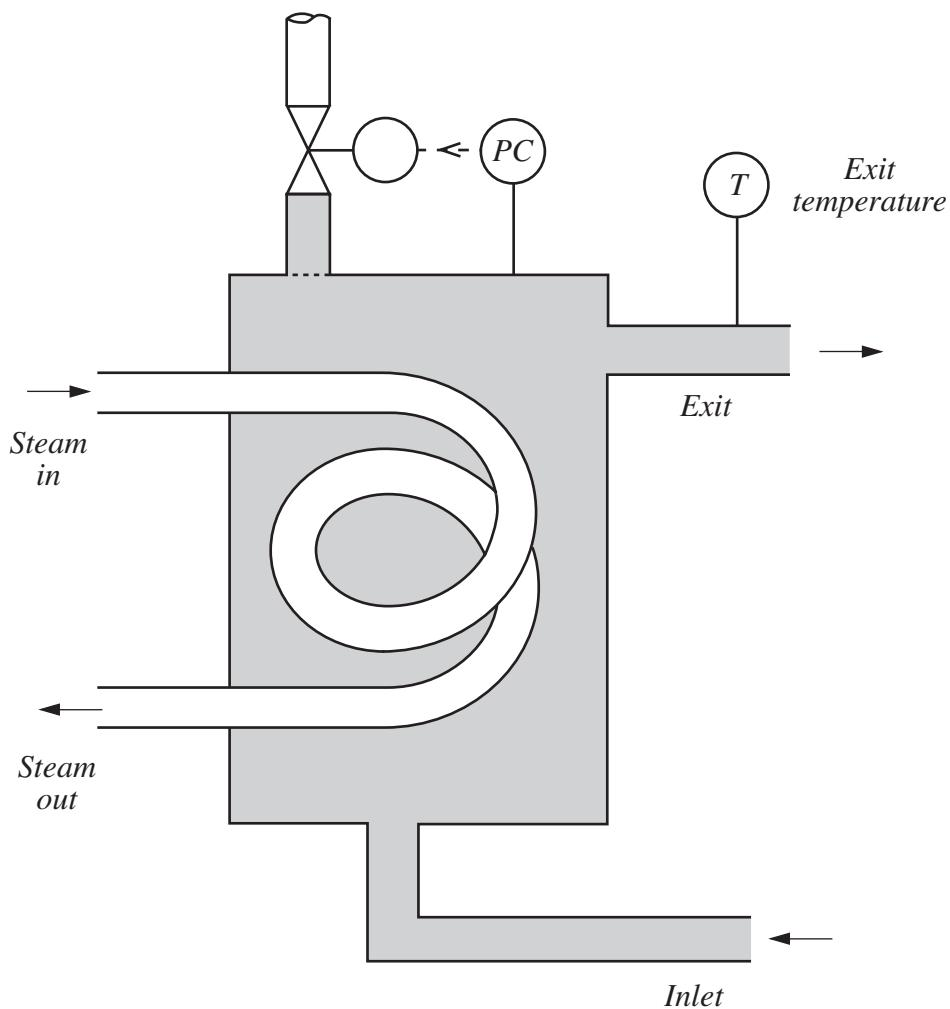

FIG. 8
1. FIGURE 8 shows a steam coil heater used to raise the temperature of a liquid. It is required to maintain a constant liquid exit temperature by controlling the steam flow. Show how this may be achieved using a simple control system.